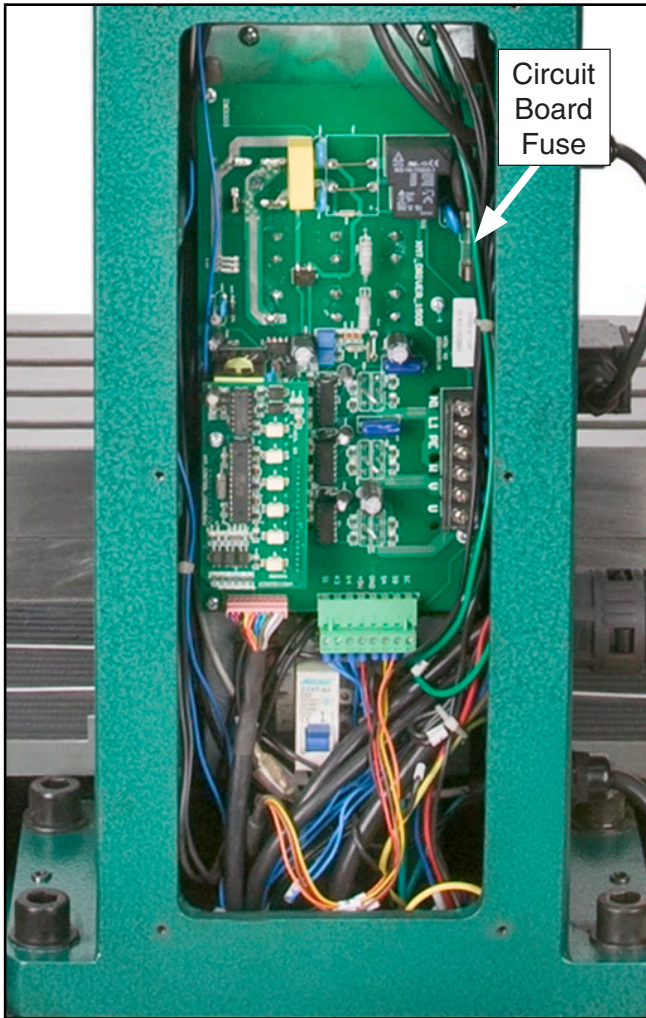

Figure 47. Motor power supply circuit board.
- h** Main Electrical Panel (See Page 39 and Figure 47)